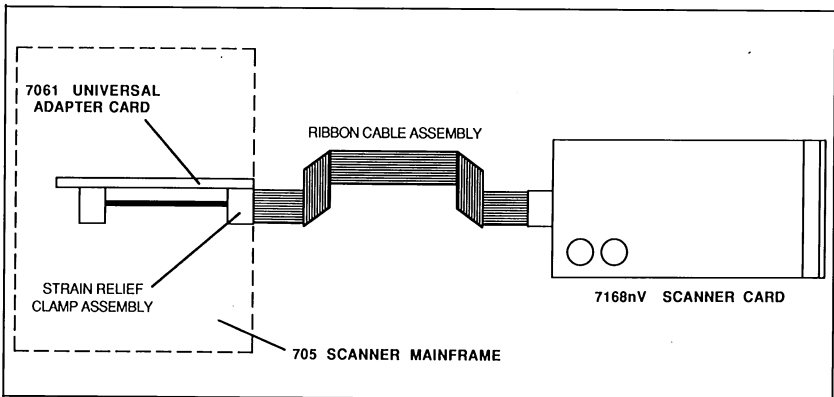

Figure 4-2. Connecting Model 7168 to Extender Card
3. Connect the Model 7168 to the Model 7061, as shown in Figure 4-2.